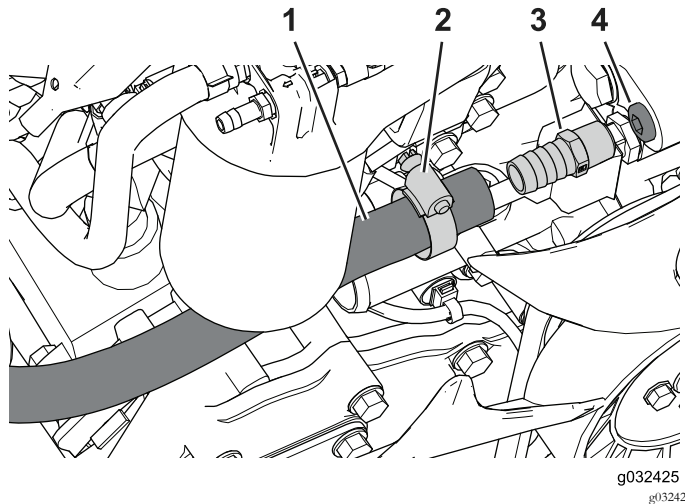

Figure 29
1. Locate and remove the engine-port plug (Figure 29).
2. Apply sealant to the male threads on the straight fitting; skipping the first thread (Figure 29).
5. Slide the hose clamp over the hose end (Figure 29).
6. Insert the hose over the straight fitting and secure it with the hose clamp as shown in Figure 29.